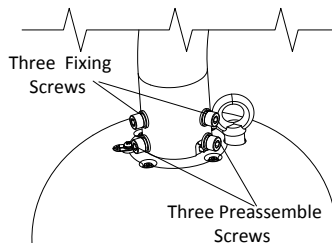

Figure 2-7 Secure the Speed Dome
5. Screw three fixing screws into the fixing screws holes on the bracket. Then tighten three preassemble screws to secure the speed dome as shown in Figure 2-7.